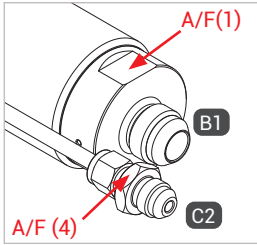
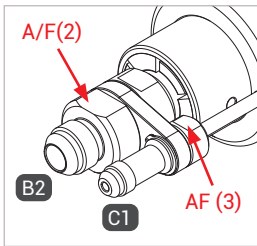

Figure 1
Figure 2
- ▶ When mounting the filling and venting hose, the media line and the gas recirculation onto ports "B1", "B2", "C1" and "C2", hold an open-ended wrench against the wrench flat A/F(1), A/F(2), A/F(3) and A/F(4) (Figure 1 and Figure 2).
- ▶ Connect the media inlet "B1" to the filling hose of the fueling station (Figure 1) in a pressure-tight manner. See the table below for information regarding tightening torque.
- ▶ Connect the gas recirculation "C2", if provided, to the venting hose of the fueling station (Figure 1) in a pressure-tight manner. See the table below for information regarding tightening torque.
- ▶ Screw the media outlet "B2" onto the connection port of the filling hose (Figure 2) in a pressure-tight manner. For the tightening torque, please refer to the table below.
- ▶ Screw the gas recirculation "C2", if provided, onto the connection port of the venting hose (Figure 2) in a pressure-tight manner. For the tightening torque, please refer to the table below.